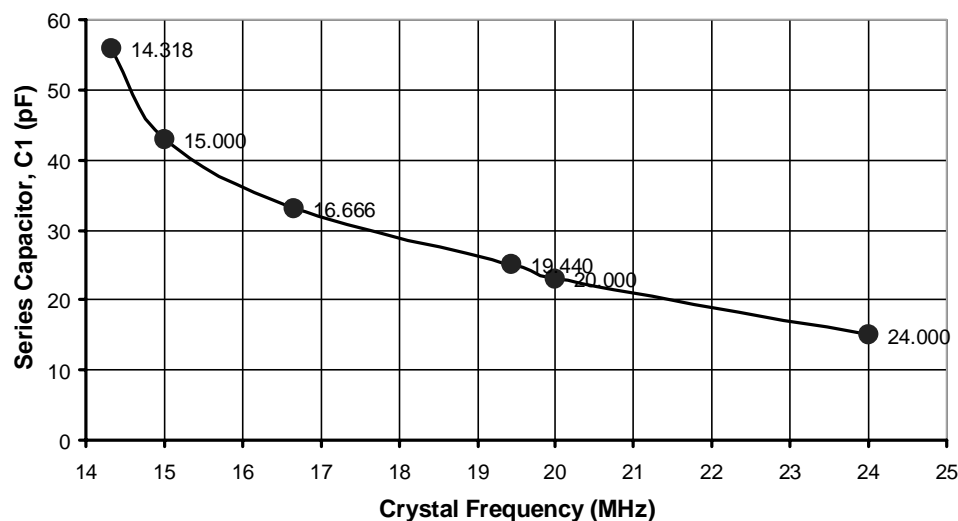

FIGURE 9 - SUGGESTED SERIES CAPACITOR C1 FOR PARALLEL CRYSTAL
*Figure 9* shows the suggested series capacitor value for a parallel crystal. For a 16.666 MHz crystal, the recommended C1 value is about 33pF.